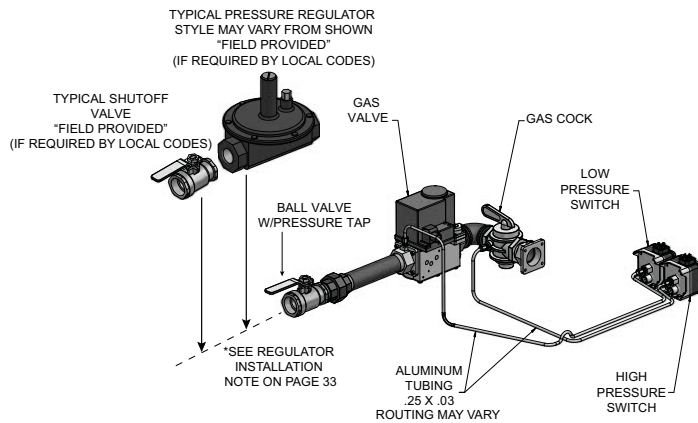

Figure 3-3A_VF 500 - 1000 High & Low Gas Pressure Switches
3. Figures 3-3A and 3-3B on page 30 show piping connections for high and low gas pressure switches for respective VF Series models.